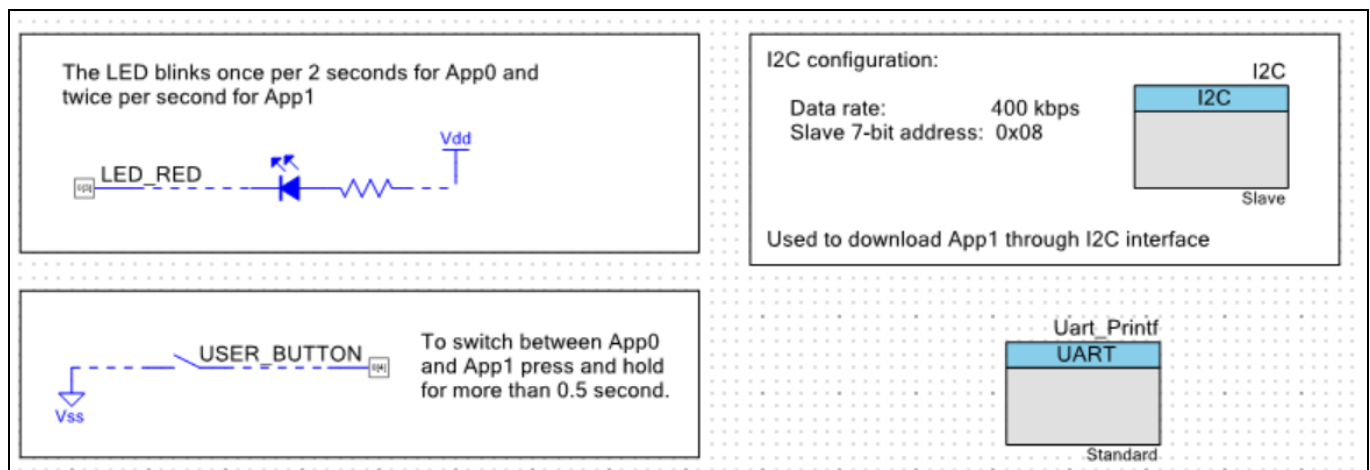
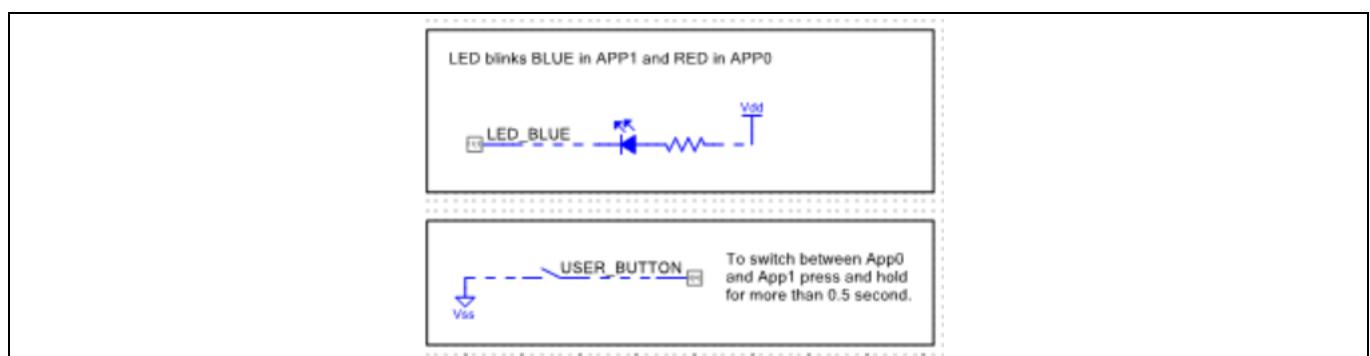

Figure 1 PSoC Creator Schematic for App0
Figure 2 PSoC Creator Schematic for App1
Configure the BHP for the KitProg3 USB-I²C bridge connection. See Figure 1 for I²C address and bit rate settings. For more information on using BHP, see BHP Help.
- **Figure 1** and **Figure 2** show the PSoC Creator project schematic for both App0 and App1. App0 has the host communication Component; App1 does not.